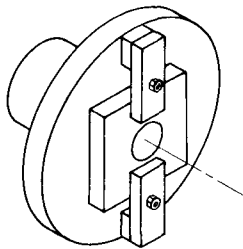

Fig. 4.199 Work clamped to a face plate
**Faceplates.** When work has to be turned parallel to or at right-angles to a flat surface a faceplate is used (Fig. 4.199).